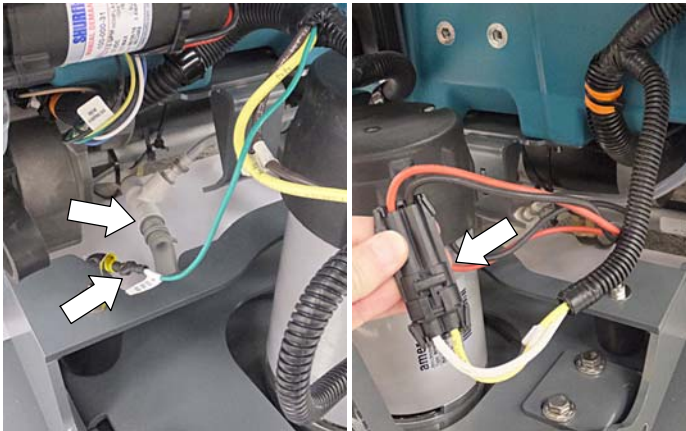

Fig. 12
13. Connect the scrub head's solution hose, ground wire and motor harness to machine (Figure 12).